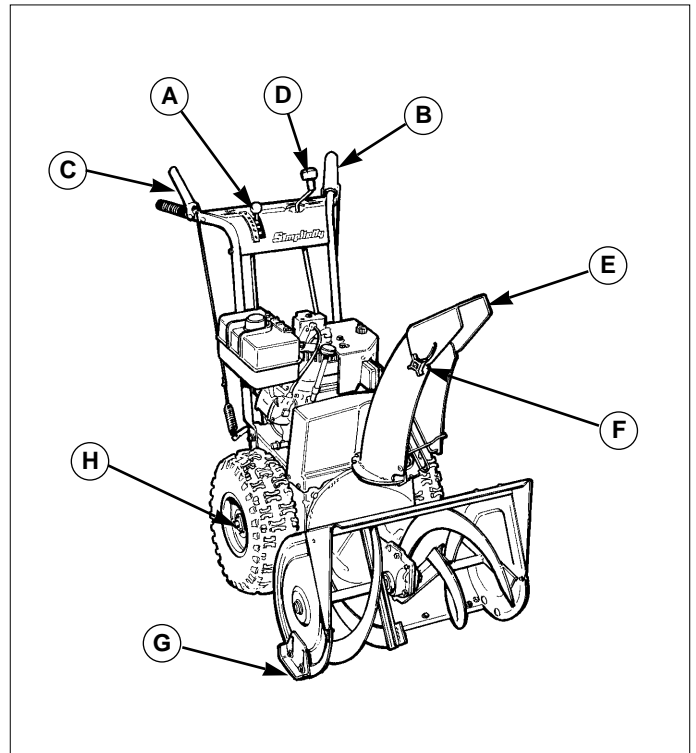

Figure 1. Snowthrower Controls
6. Check the Drive Control (B, Figure 1), and Auger Control (C, Figure 1) for proper operation. If adjustment is required, see the Service section (pages 16-17) for procedures.
7. Check the Chute Direction Control (D, Figure 1) for proper operation. The discharge chute should rotate freely in both directions. See the Service section for adjustment procedures and troubleshooting.
8. Check the Chute Deflector (E, Figure 1) for proper operation. The deflector should pivot freely up and down when the Chute Deflector Knob is loosened. If adjustment is required, see the Service Section for procedures.
10. Check the Speed Selector (A, Figure 1) for smooth operation. The control must move freely into each speed position gate and remain in position when released. If the Speed Selector does not move freely into all forward and reverse speed positions, contact your local authorized dealer for assistance.